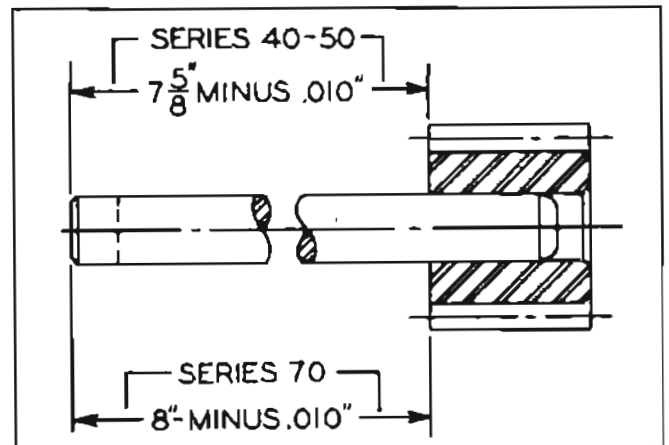

Figure 2-37—Position of Gear on Shaft
3. Check position of gear on shaft. The measurement should be same as shown in figure 2-37.